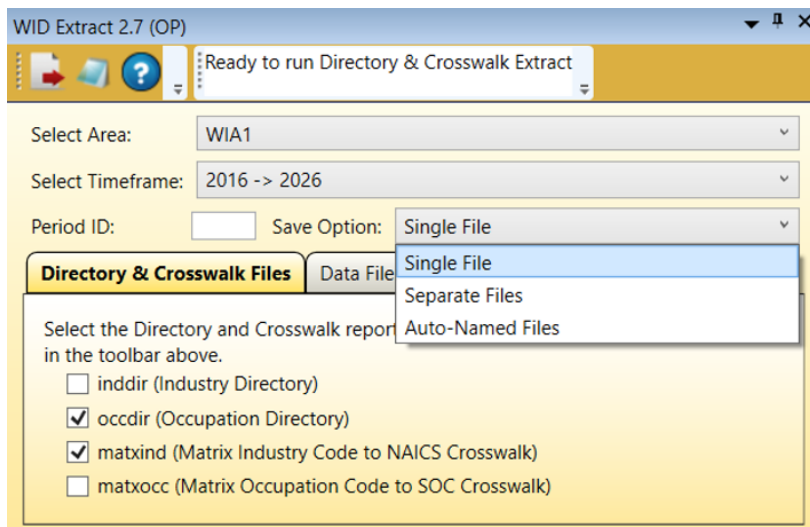

Figure 2: Make a selection from the Save Option drop-down menu
2. Select the check box(es) for the report(s) to create (see the Figure 2 table image checkboxes).